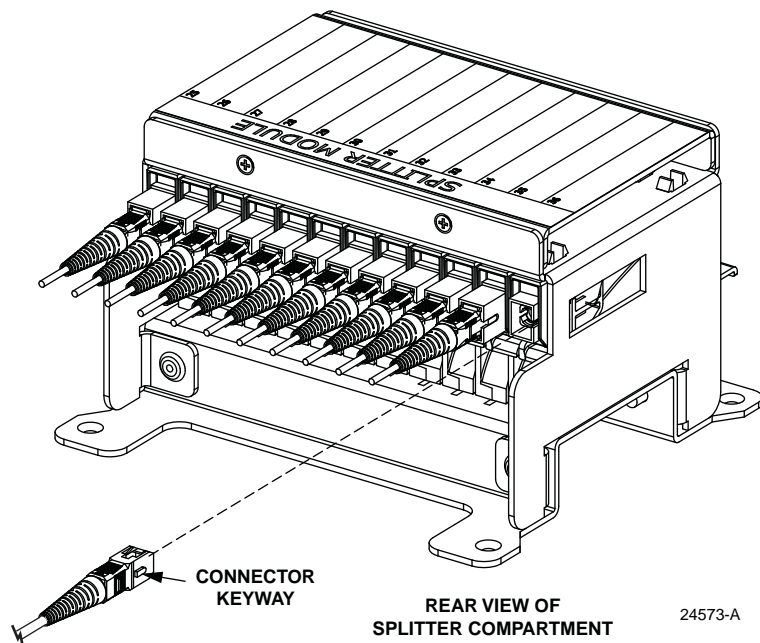

Figure 18. Feeder Cable Connector
3. Remove the corresponding feeder cable connector from the rear of the splitter compartment as shown in Figure 18.
3. Remove the feeder cable connector from the rear of the splitter compartment (see Figure 18).